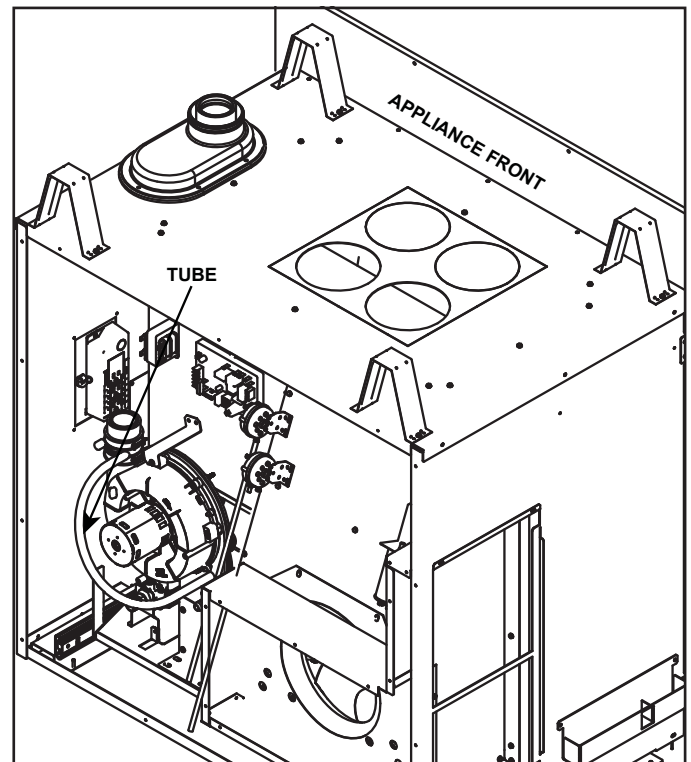

Figure 4.2. Upper Inducer Housing Tube - Connected to Inducer
4. Remove upper inducer tube from inducer housing. See Figure 4.2.